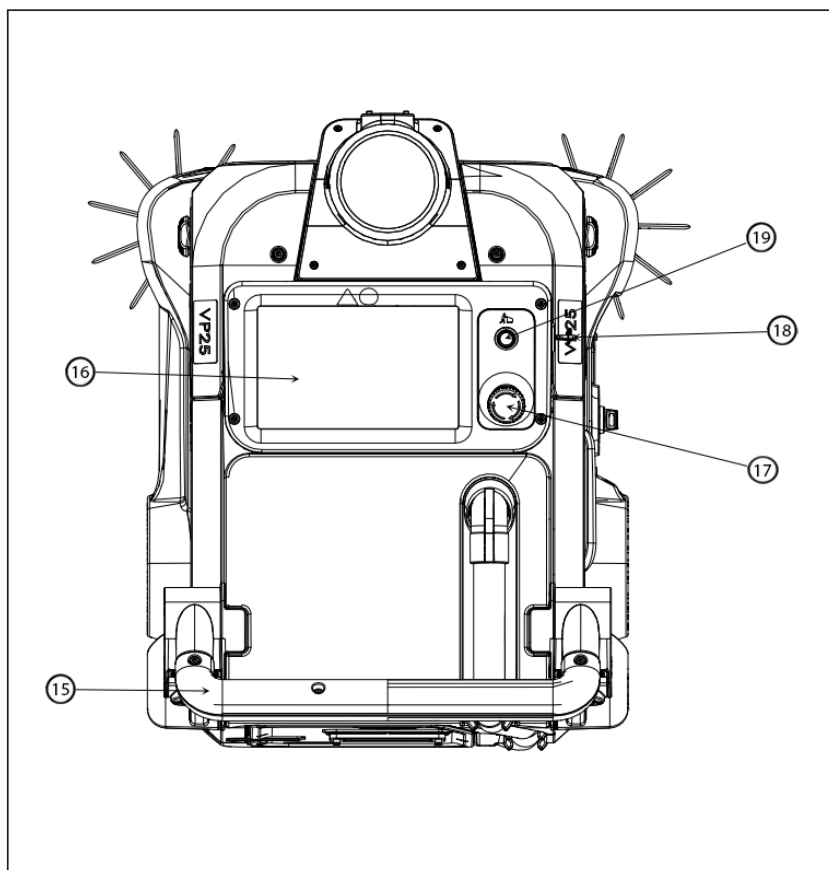

Figure 3
2. Insert key into Key Switch (18) (Fig. 3).
2. Blue light on Wheel Lock/Unlock Button (19) (Fig. 3) indicates wheels are locked.
The Touchscreen **(16)** (**Fig. 3**) is used to operate the machine. Each VP25 user is assigned a unique 'User ID' and PIN for use with the touchscreen. You must be logged in to operate the machine.